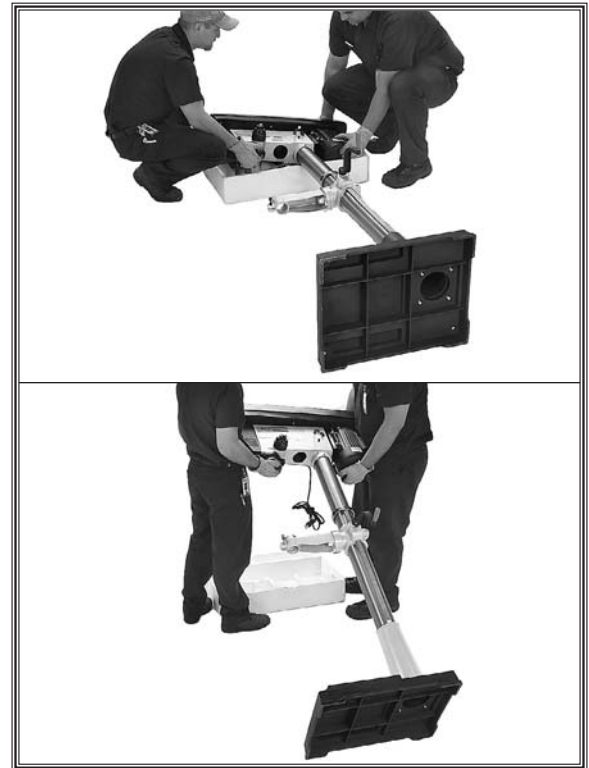

Figure 14. Mounting the headstock.
5. Tilt the entire assembly up (see **Figure 14**) and carefully position the drill press on its base in the fully upright position.